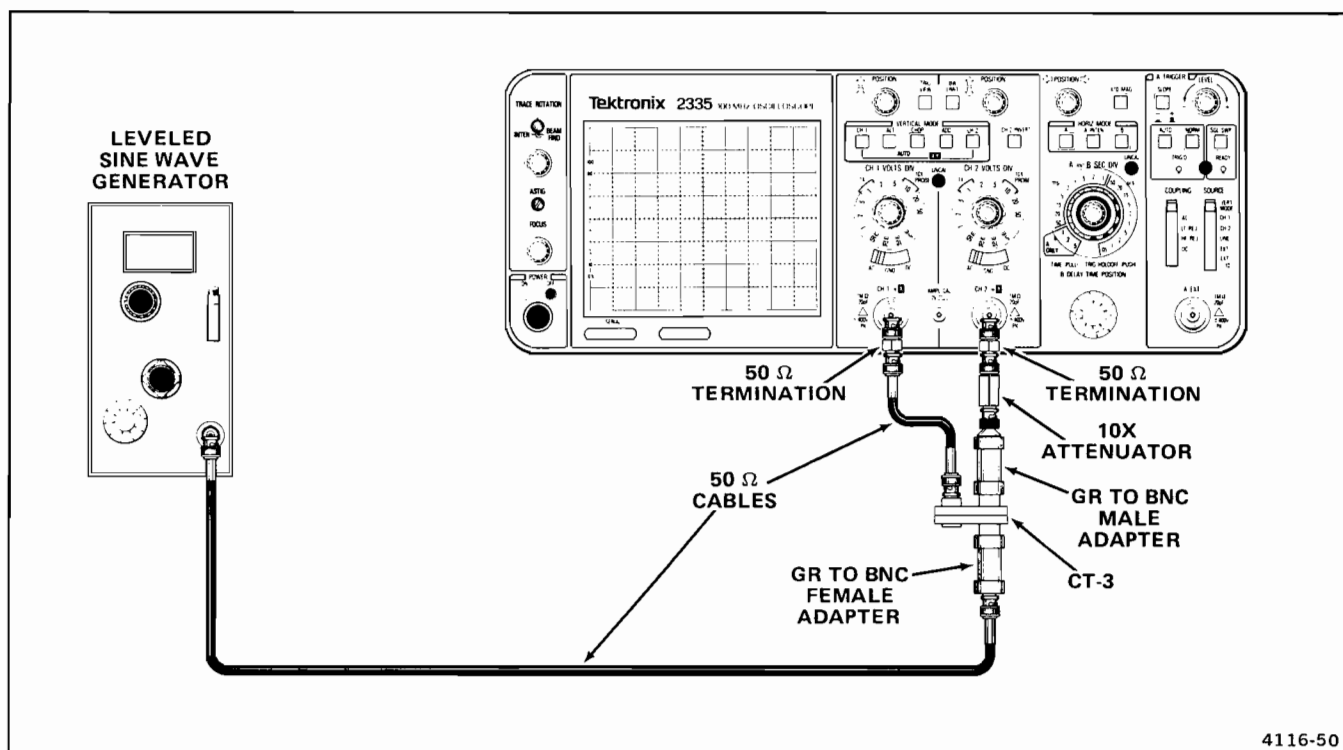

Figure 4-1. Test setup for external trigger and jitter checks.
b. Connect the test equipment as shown in Figure 4-1.